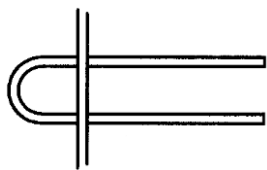

fig. 1
- Step 1 Bend the P/N P7J / P9J Series Prusik Loop in half and pass the loop behind the line as shown in fig. 1.